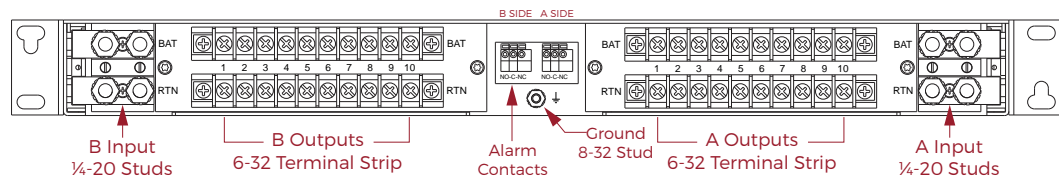

Figure 5. Back Panel View
9.1 Back View. Figure 5 shows the back of the DPB1U and DPG1U distribution panel. Inputs are at the left and right ends of the back panel. Side B outputs are at two rows of barrier terminal strips on the left side, and side A outputs are the same on the right side. At the center of the back panel are two spring clamp terminal blocks for the Form C relay contact outputs.
9.4 Output Connections. Output connections for A and B loads are shown in Figure 5. There are 10 sets of barrier terminal strip connections for each side, A and B. The connections are numbered to correspond with the numbers of the front panel breakers. The upper strip connections are from the battery through the breakers; the lower strip connections are the returns. Side B is on the left and side A on the right, as shown.